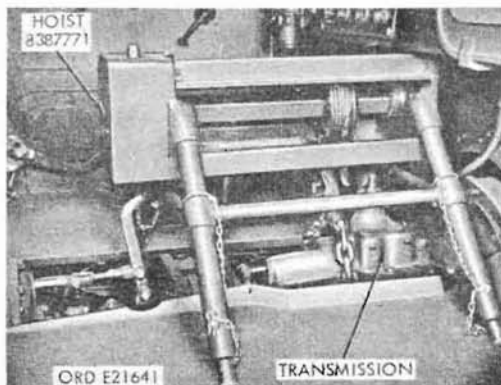

Figure 190. Lowering transmission using hoist 8387771
- (g) Using the hoist (fig. 190), lower the transmission on to a low wheel dolly and remove it from under the vehicle.